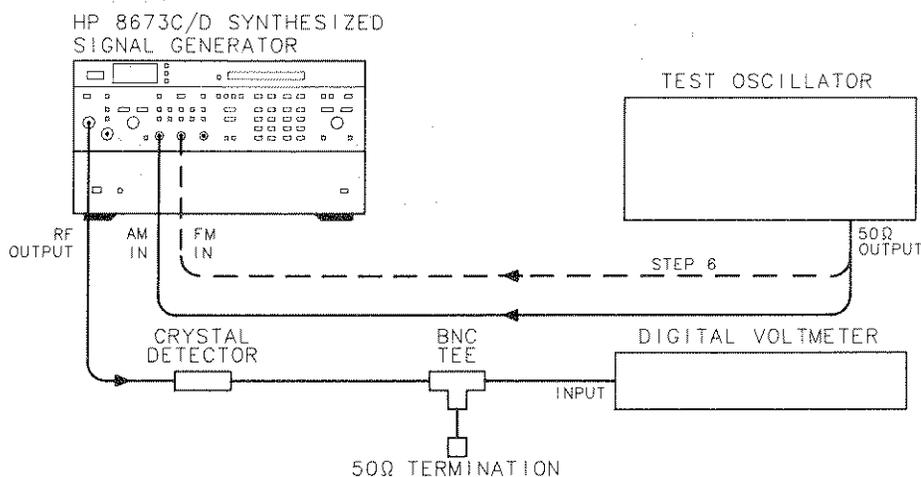

Figure 4-38. Incidental AM Test Setup
1. Connect the equipment as shown in Figure 4-38.